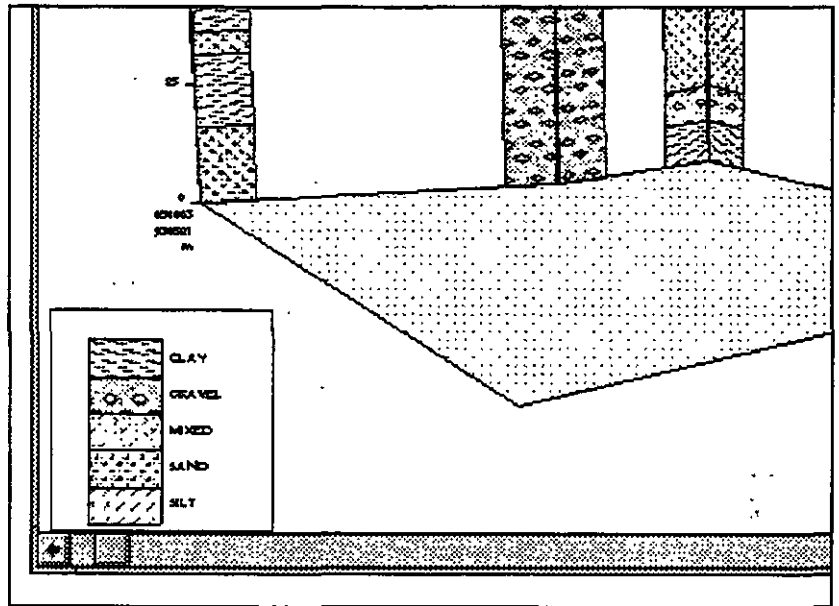

Figure 17-33
3. The program offers now "Legend text for ..." the symbol that you selected, and places the default text associated with this symbol. You may confirm it by pressing ENTER or clicking on OK button, or you may type another text. Here again you may use language other than English! After the last selected symbol is confirmed, the program will automatically add these symbols onto the currently active legend block. Figure 17-33 displays a legend block created to de-